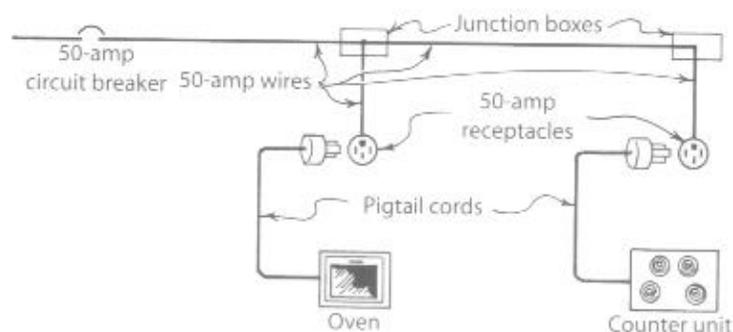

Fig. 14-3 It is common to provide separate circuits for oven and counter units, but both may be placed on one circuit as shown.
If you install a single circuit for oven and cooking units combined, it must be a three-wire, 50-amp circuit. Any wiring method may be used, including service-entrance cable with a bare equipment grounding conductor. The receptacles must be the 50-amp type, and may be flush receptacles installed in outlet boxes, or the surface type shown in Fig. 14-2. The circuit will be as in Fig. 14-3. The wires to the receptacles must be the same size as the circuit wires. But the wires from the receptacles to the oven or cooking unit may be smaller, per *NEC* 210.19(A)(3) Exception 1, provided they are heavy enough for the load, not smaller than 12 AWG (10 AWG if used for grounding), and not longer than necessary to service the appliance. The receptacles are not required but they may be convenient for installation. The oven or cooking unit may be connected directly to the circuit wires in the junction boxes. The *NEC* exception permits smaller wires between the junction box and the appliance under the same conditions specified for when receptacles are used.